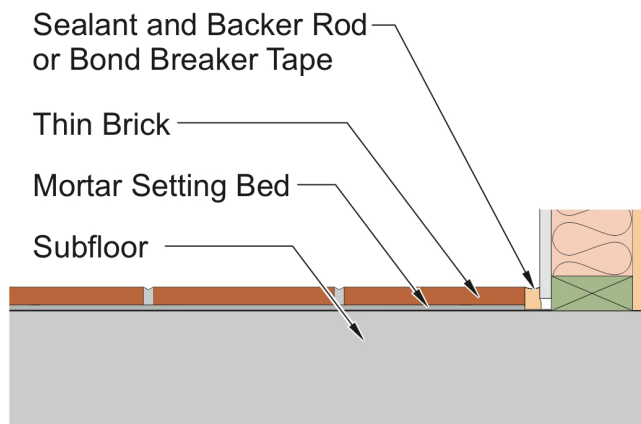

Figure 1: Thin Brick Flooring Expansion Joints
- Install a backer rod in joints exceeding $\frac{3}{8}$ in. in depth prior to applying the elastomeric sealant. In cases where the joint is not deep enough for both a backer rod and the joint sealant, apply bond break tape to the bottom of the joint instead of a backer rod (Figure 1).